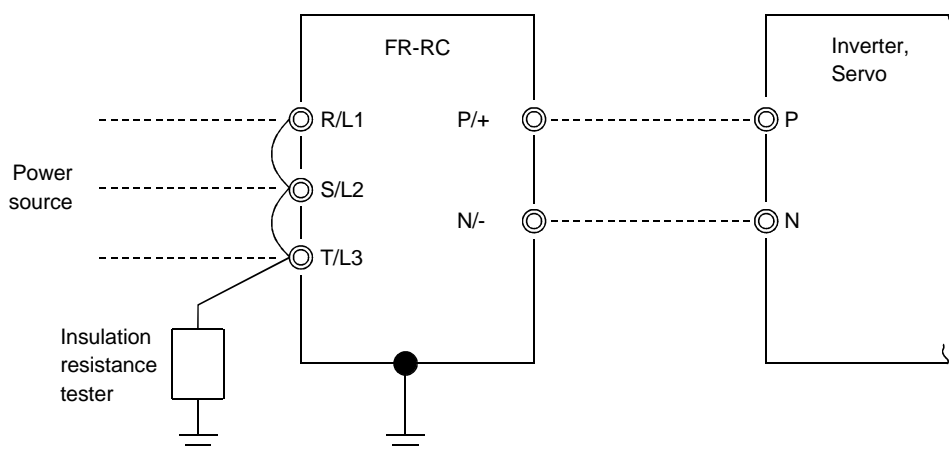

Fig. 5 Outline of a megger test
(3) How to perform the insulation resistance test
- Perform an insulation resistance test on the power regeneration converter itself with the main circuit terminal block shorted as shown in Fig. 5. Note that the insulation resistance test should not be done on the control circuit.